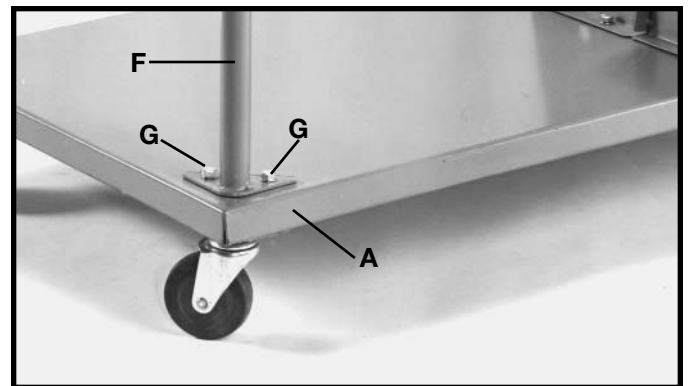

Fig. 8
3. Assemble drum support (F) Fig. 8, to the two threaded holes in the corner of base (A), as shown in Fig. 8, with two 5/16-18x5/8" hex head screws and 5/16" lockwashers (G). **NOTE:** Do not completely tighten hardware at this time.